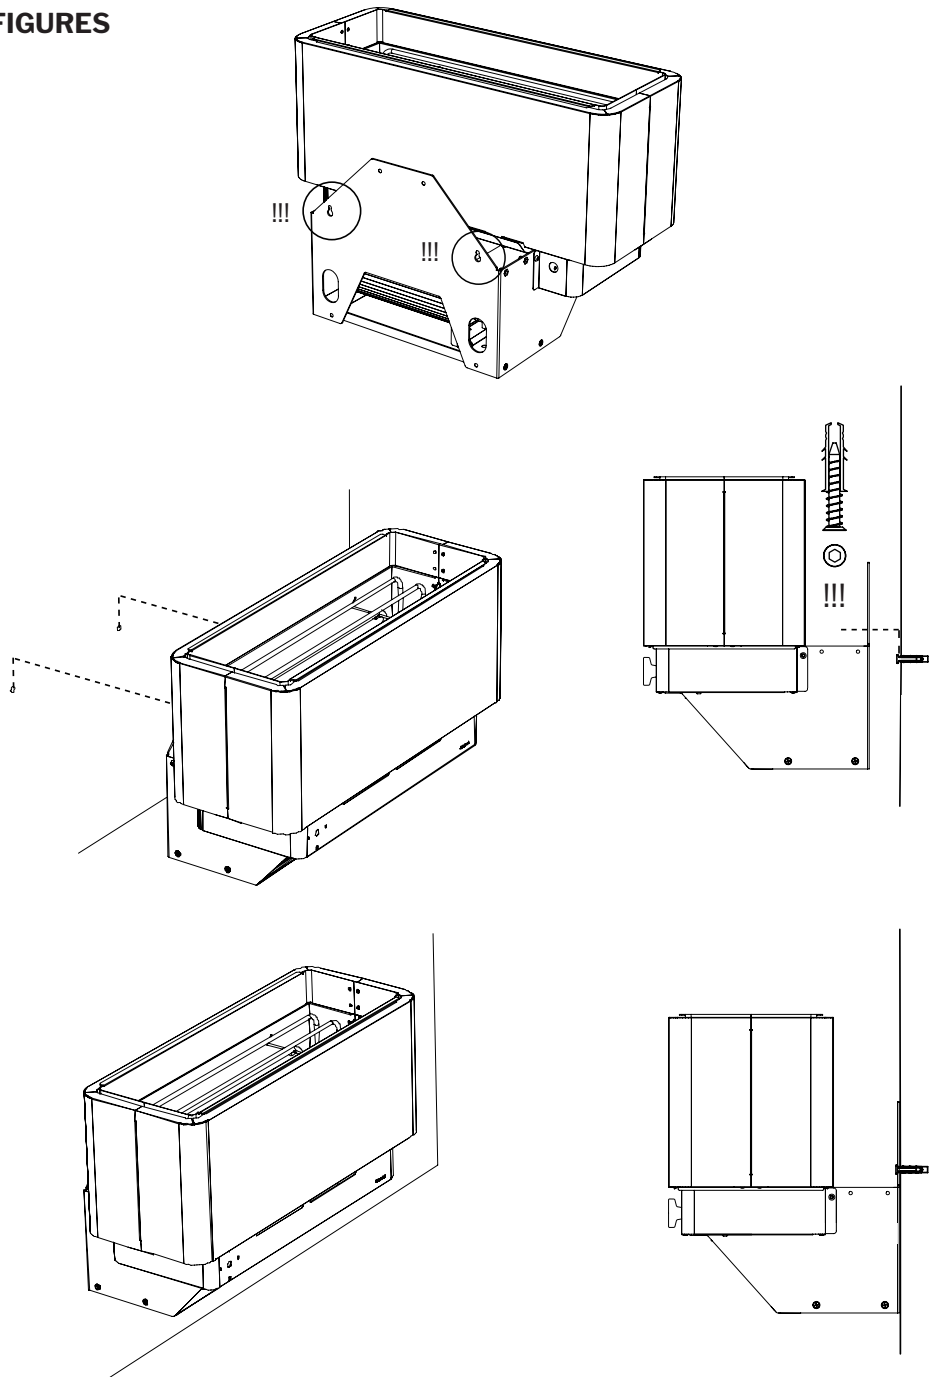

Figure 3.4: Hanging the sauna climate device on the wall
- 3.2.3.** Then, lift the device on the wall so that the bolts in the wall slide into the openings on the back of the device (**Figure 3.4**).